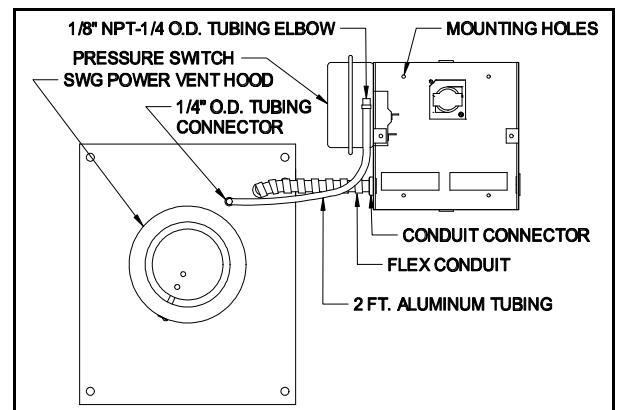

Figure 3
2. Fasten the flexible conduit from the SWG Venter into the conduit connector. Mount the CK-43F junction box or installer supplied junction box onto the wall or floor joist without straining the flexible conduit. Fasten the CK-43F junction box through the four dimpled locations on the base of the box. (See Figure 3)
1. Attach the 1/4 inch tubing connector to the pressure tube on the SWG Venter. (See Figure 3)